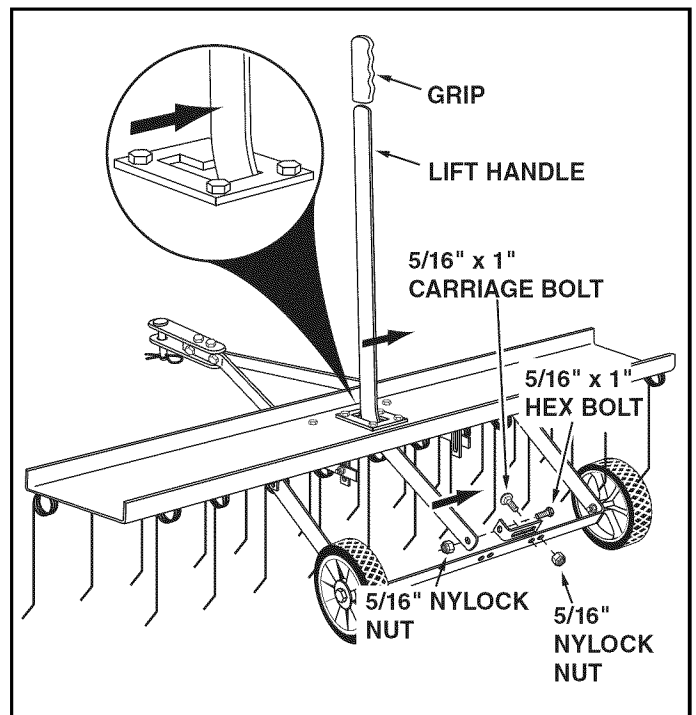

FIGURE 7
- Assemble a hitch arm mount bracket to the axle bracket using two 5/16" x 1" carriage bolts and 5/16" nylock nuts. **Do not tighten yet.** See figure 7.
- Insert the lift handle down through the tine shield. Attach it to the just assembled hitch arm mount bracket using a 5/16" x 1" hex bolt and a 5/16" nylock nut. **Tighten.** See figure 7.
- Position the hitch arm mount bracket so that there is side tension on the lift handle when it is locked in the up position. **Tighten** the nuts. See figure 7.
- Assemble the grip onto the end of the lift handle. See figure 7.